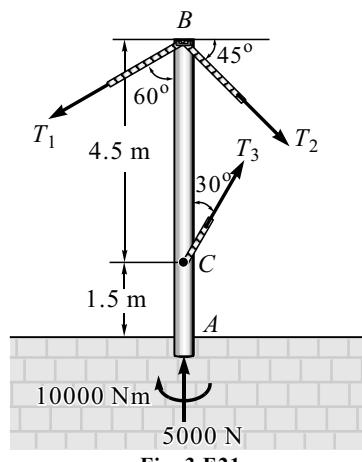

Fig. 3.E21
22. The spanner shown in Fig. 3.E22 is used to rotate a shaft. A pin fits in a hole at *A*, while a flat frictionless surface rests against the shaft at *B*. If the moment about *C* of the force exerted on the shaft at *A* is to be 87 N-m, find (a) the force *P* which should be exerted on the spanner at *D* and (b) the corresponding value of the force exerted on the spanner at *B*.